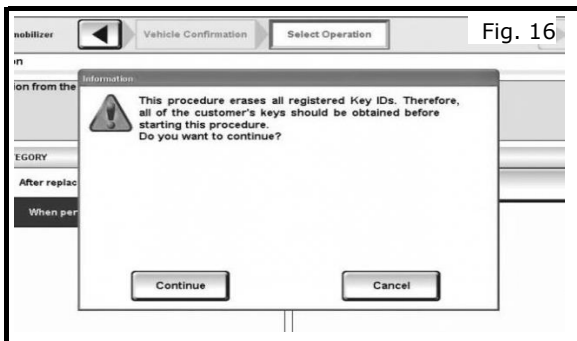

Fig. 16
- a) Follow the CONSULT III plus prompts as shown in Fig. 16